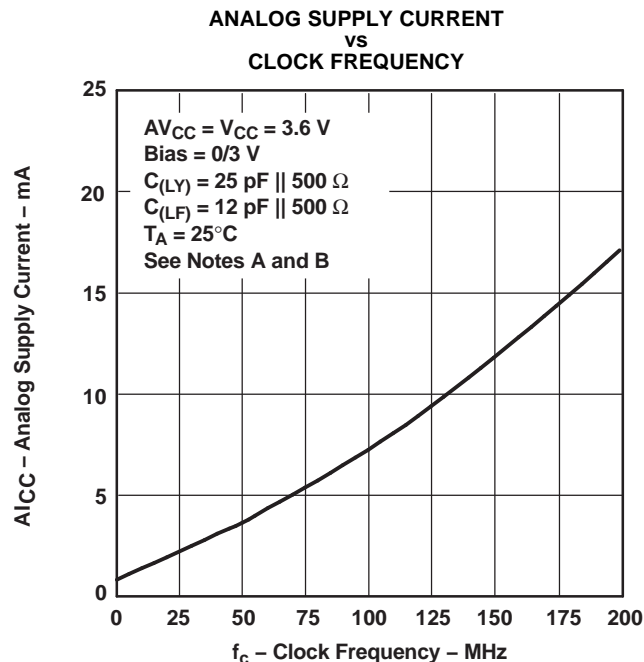
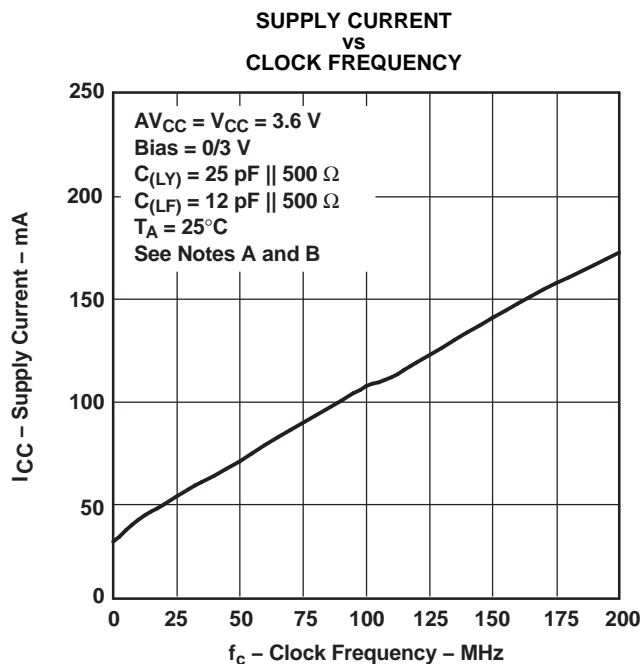

Figure 9.
Figure 10.
(1) For conditions shown as MIN or MAX, use the appropriate value specified under recommended operating conditions.
(2) For dynamic I_{CC} vs Frequency, see Figure 9 and Figure 10.